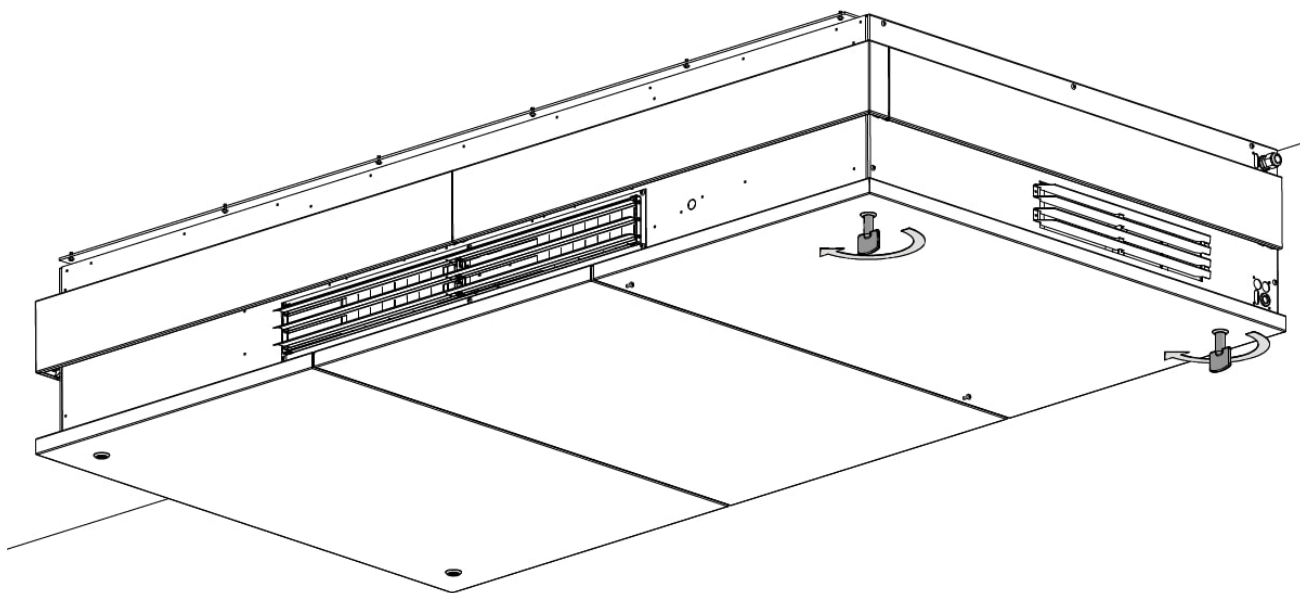

Figure 23: Open the service cover
1. Open the service cover on the right-hand side of the unit. Use the service cover key included in the delivery. See Figure 23 below.